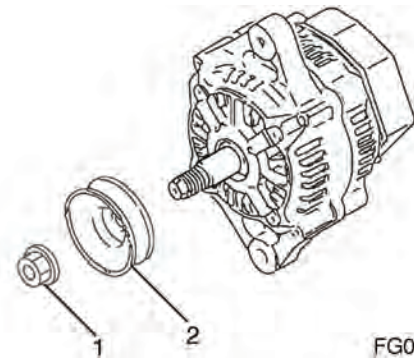

Figure 387
1. Remove the nut (1, Figure 387) from the shaft of the rotor assembly. Remove the pulley (2, Figure 387).